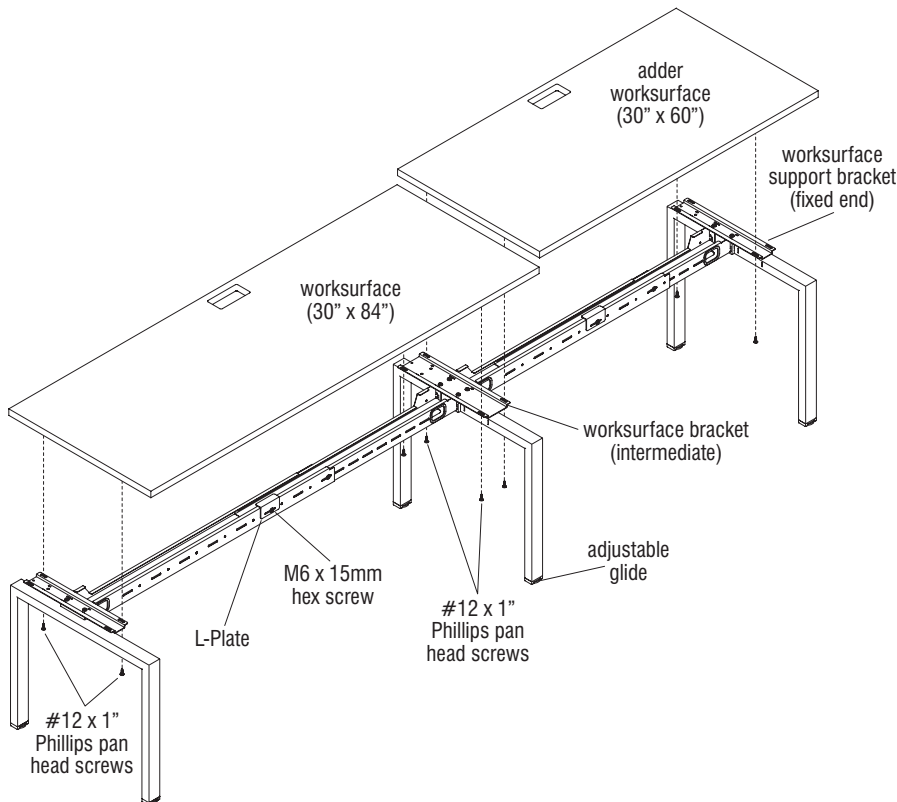

Figure 1 - Single-Sided Fixed Benching, Multiple Top (Adder) - Worksurfaces Installation
1. When legs, beams and support brackets are ready for worksurface installation (and if modesty panel brackets and/or privacy screen brackets and/or power supporting components have been installed to worksurfaces, if required), position each worksurface over the installed worksurface brackets, positioning the rear edge of the worksurface flush with the back of the legs. Align the pre-drilled holes in the worksurface with the slots in the worksurface brackets and twist in (two or four) #12 x 1" Phillips pan head screws per bracket only half-way (end worksurface brackets utilize only two screws per bracket) (Figures 1 & 2).
2. Push each worksurface back straight to set the screws tight to the back of the worksurface bracket slots such that the worksurfaces overhang the back of the legs by 1/8", then tighten all #12 x 1" Phillips pan head screws to secure (Figures 1 & 2).
3. Tighten all of the M6 x 15mm hex-drive screws into the threaded locking plates and L-Plates (if required) in the center of the beams (Figures 1 & 2).
4. Finally, position the table(s) at their desired location in the room. To adjust for uneven floor conditions, level the tables by turning the adjustable glides either in or out (Figures 1 & 2).